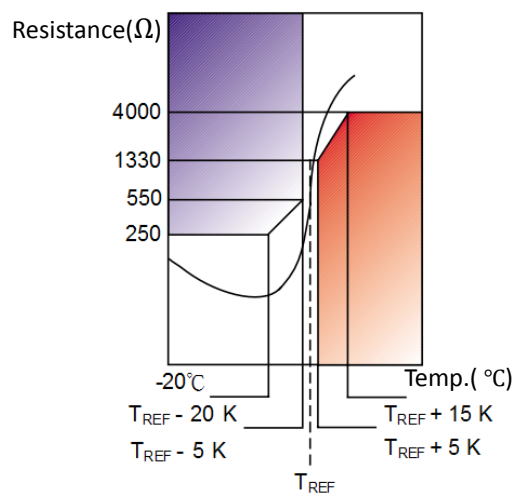

Figure 4.26 Relationship between PTC temperature and resistance
PTC100 and PTC120(130) are thermistors. Their output resistance changes according to coil temperature. Resistance of PTC100 rises drastically when $T_{REF}=100^{\circ}\text{C}$, while resistance of PTC120(130) rises drastically when $T_{REF}=120(130)^{\circ}\text{C}$. Their features are given in **Table 4.22** and **Figure 4.26**.
To protect the motor windings against thermal damage, every motor is equipped with a triple positive temperature coefficient (PTC) sensor, type SNM120/130 (in accordance with DIN 44082-M180). Since the degree of heating of the individual motor phases can be very different, a PTC sensor is fitted in each phase winding (U, V and W). Each PTC element has a “Quasi-switching” characteristic, i.e. the resistance suddenly increases close to the rated temperature (switching threshold, Figure 4.26). Due to its low heat capacity and good thermal contact with the motor winding, the PTC reacts very quickly to a rise in temperature and, in conjunction with additional protective mechanisms on the control side, ensures reliable motor protection against overload. The PTC elements located in every phase winding in HIWIN motors are wired in series; they connect via two wires.